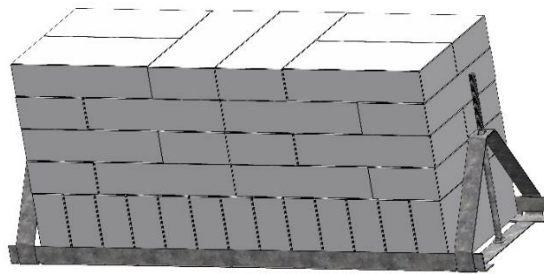

Figure 17 Alternating ballast brick pattern
8. Install the ballast bricks to the ballast frame alternating brick layout as per Figure 17.